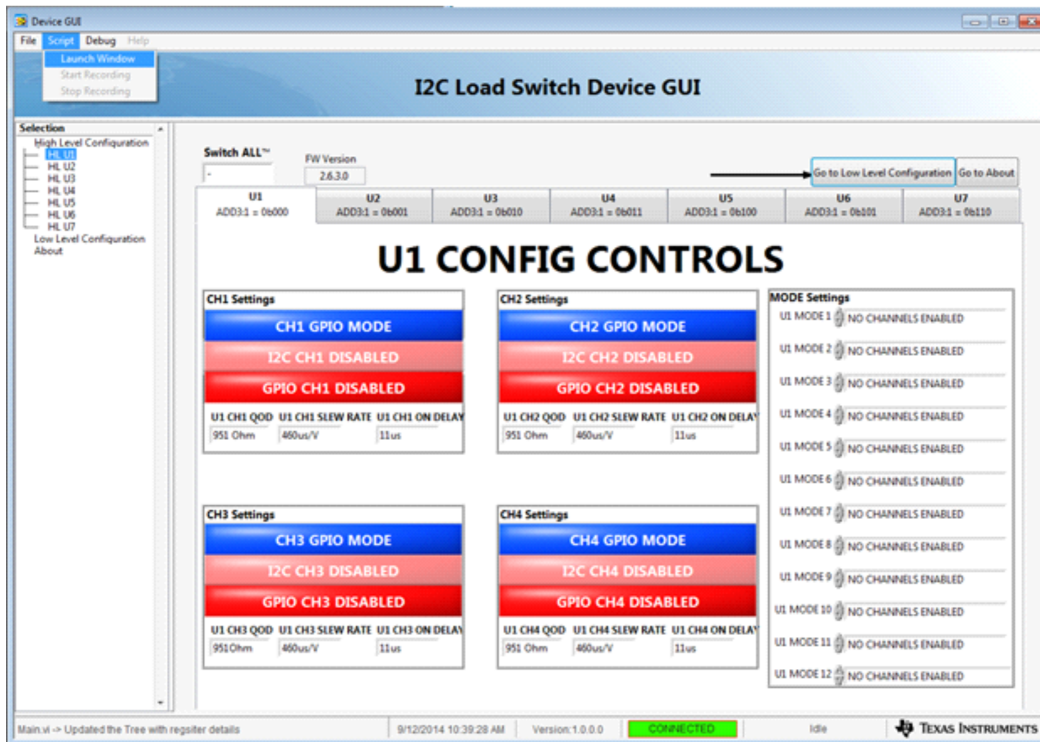

Figure 12. Launch Script Window
- (A) Restart the Device GUI to insure the GUI starts with the known default values.
- (B) Go to the drop down menu Script >> Launch window as shown in Figure 12.